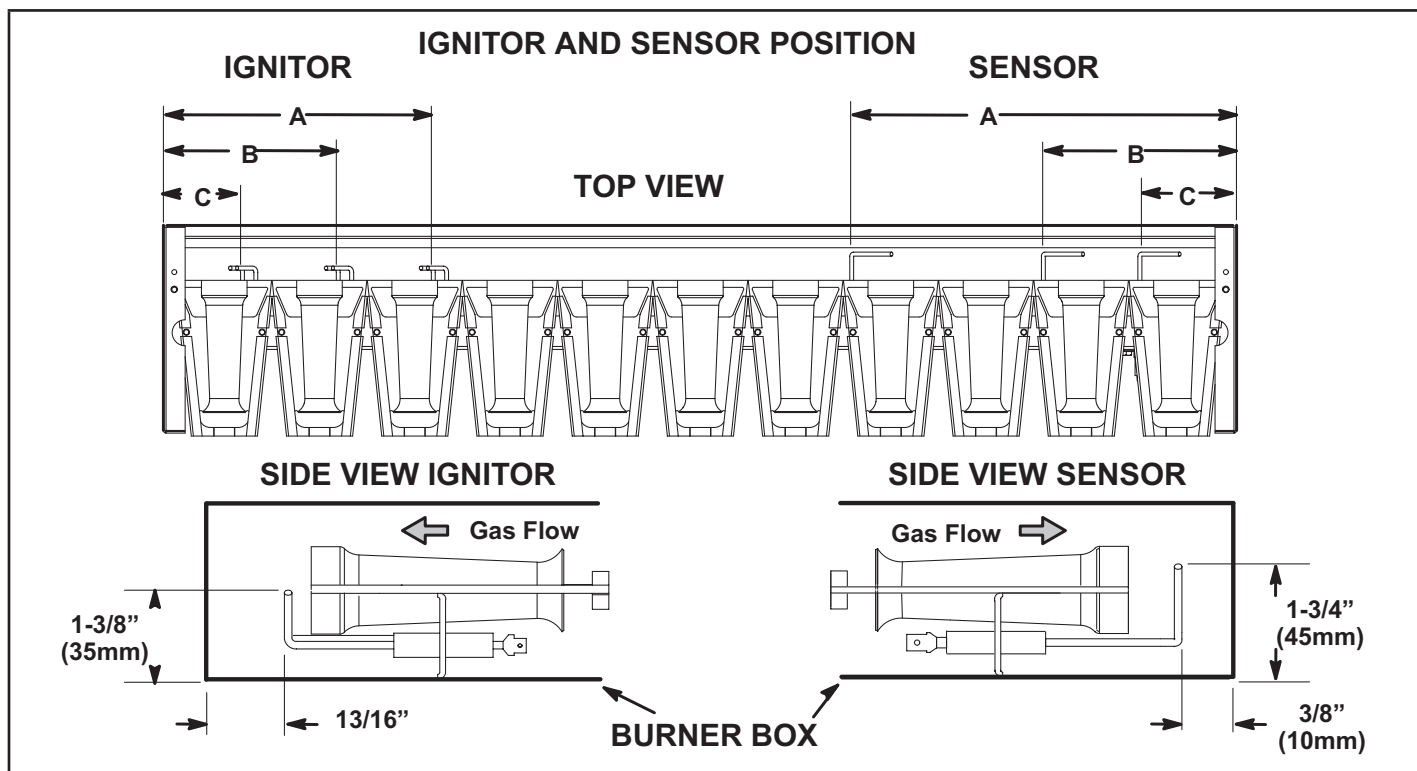

FIGURE 36
- 5 - Check the alignment of the ignitor and the sensor as shown in FIGURE 36 and TABLE 12.